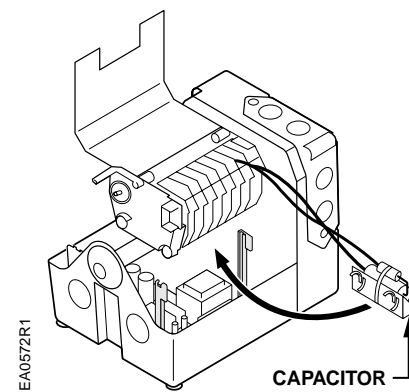

Figure 24.
5. Re-install the actuator motor capacitor. See *Figure 24*.